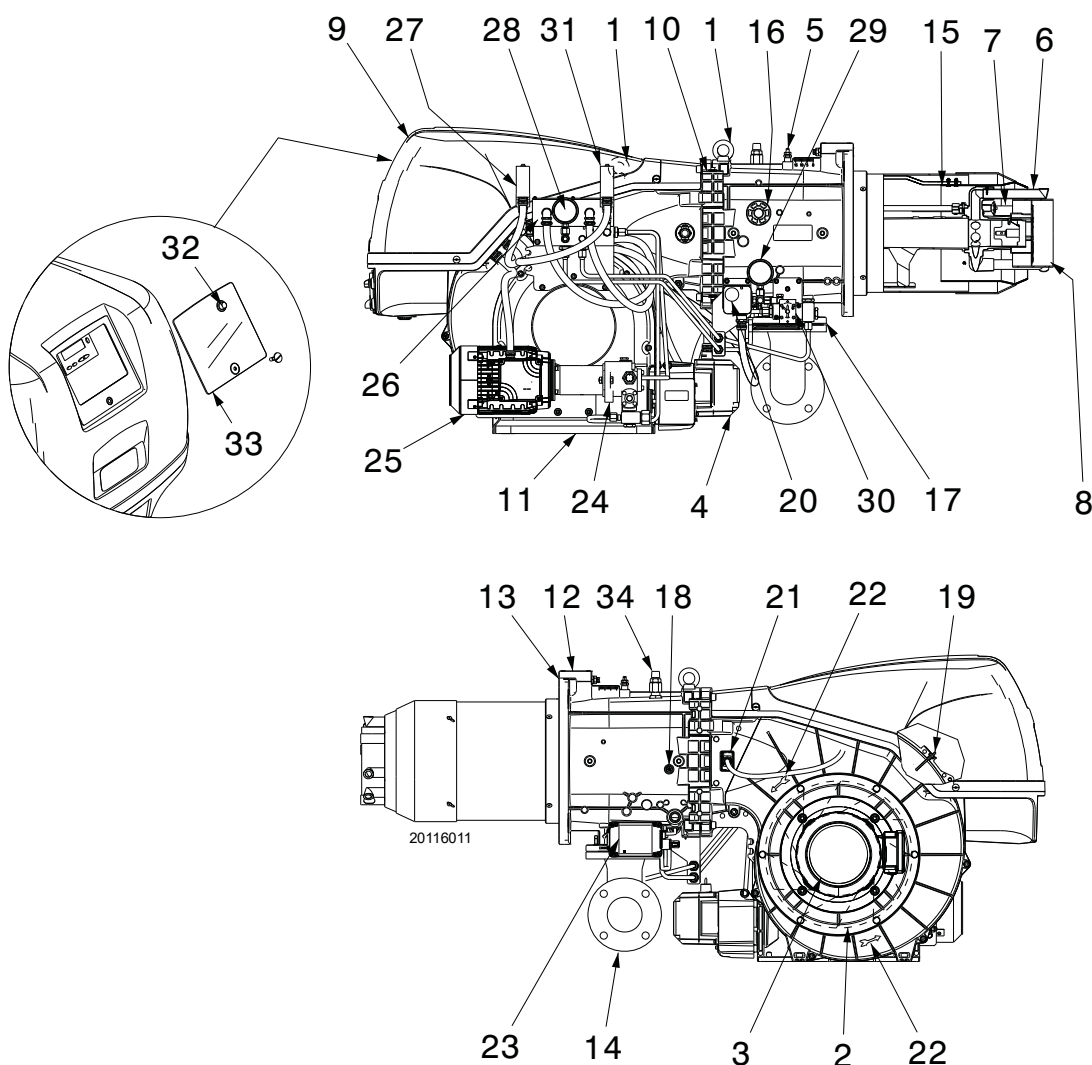

Fig. 3
(1) Reference conditions: ambient temperature 68 °F (20°C) - Barometric pressure 394" WC - Altitude 329 ft.
(2) Pressure at test point 5)(Fig. 3 on page 11) with zero pressure in the combustion chamber and maximum burner output.
(3) Sound pressure measured in manufacturer's combustion laboratory, with burner operating on test boiler and at maximum rated output.
(4) Equivalent Btu values based on 1 USGPH = 140,000 Btu/hr.